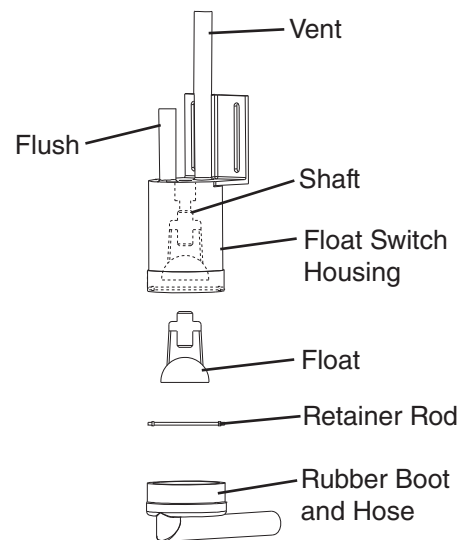

Fig. 16
- 4) Disconnect the vent tube and the flush tube from the top of FS, then remove FS assembly and remove the rubber boot from the bottom of FS assembly. See Fig. 16.